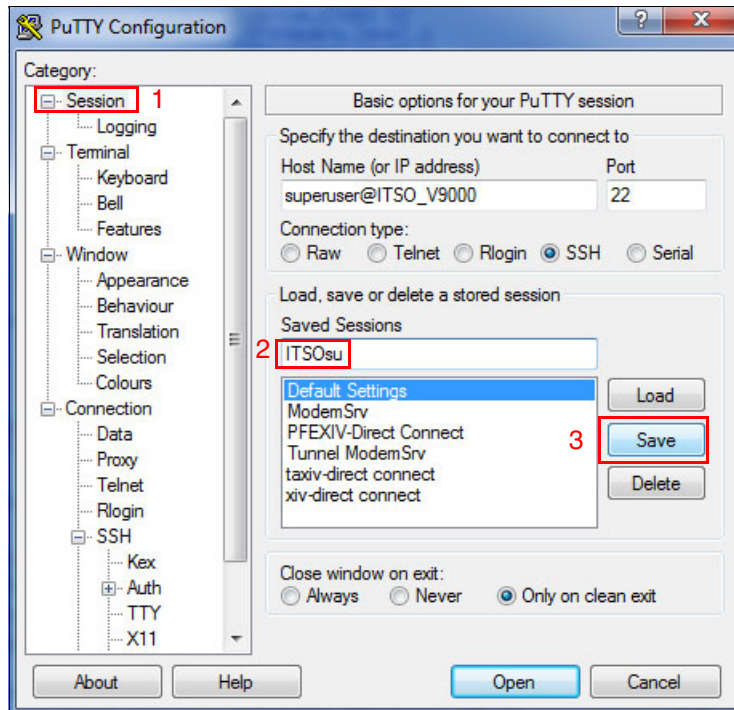

Figure 13-22 Save PuTTY session for use with plink
Complete saving the session (Figure 13-22) by returning to the Session Panel (1), providing a session name (2), and clicking **Save** (3).